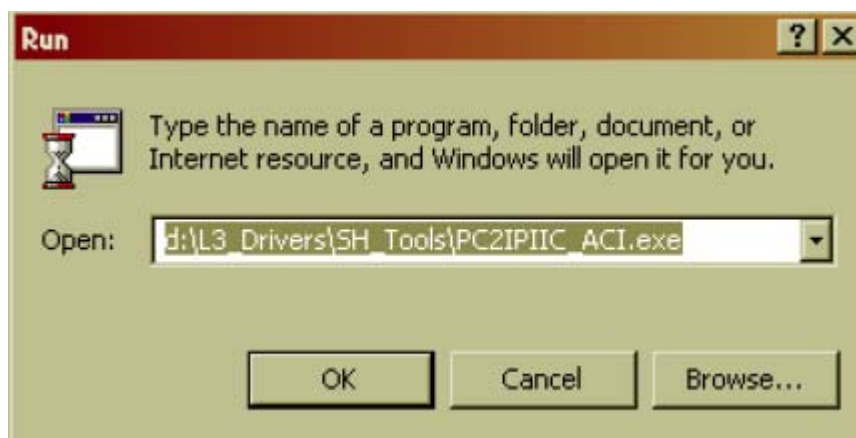

Figure 7-31 Selecting the tool.
- 2.) The Correct Hardware ID can be checked in the following way. In Start\Run, Type in "d:\L3_Drivers\SH_Tools\PC2IPIIC_ACI.exe", as shown in Figure 7-31 on page 64 below.